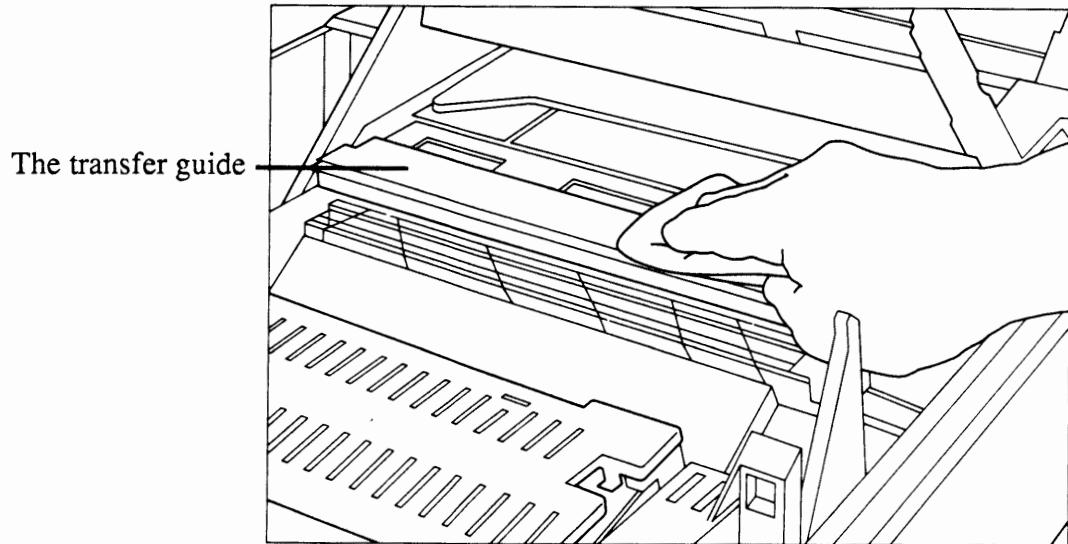

FIGURE 19
Dampen a cloth with alcohol. (Don't soak it—it should be moist, not wet.) Clean the transfer guide with the cloth (Figure 19).
- 6.39 External Covers, Panels, Etc. (Figure 19)